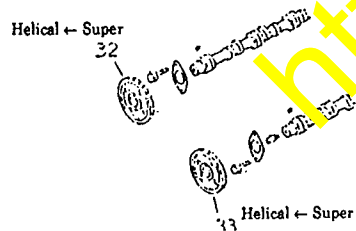

Fig. 8
(4) Change of cam gear (Fig. 8)